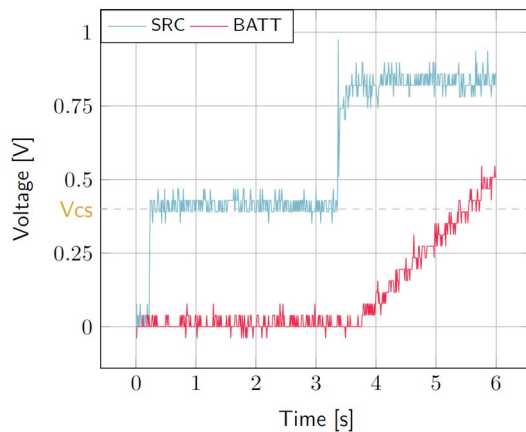

Figure 7: AEM10941 behavior during cold start
- **SRC**: Equal to the cold-start voltage during the cold-start phase. Regulated at the selected MPPT percentage of **VOC** when cold start is over. (See Figure 7). Be careful that the cold-start phase time will shorten with the input power. Limit it to ease the observation.
- **BATT**: Starts to charge when the cold-start phase is over (see Figure 7).